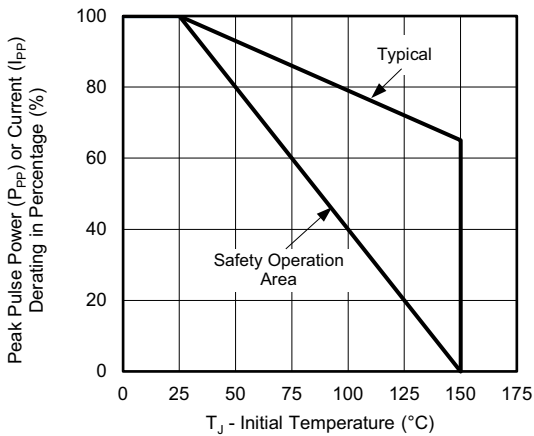
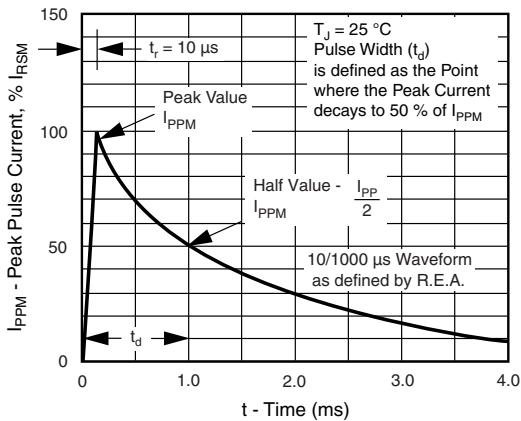

Fig. 2 - Pulse Power or Current vs. Initial Junction Temperature
Fig. 3 - Pulse Waveform
- (1) Non-repetitive current pulse, per fig. 3 and derated above  $T_A = 25\text{ °C}$  per fig. 2
(2) Mounted on 0.31" x 0.31" (8.0 mm x 8.0 mm) copper pads to each terminal